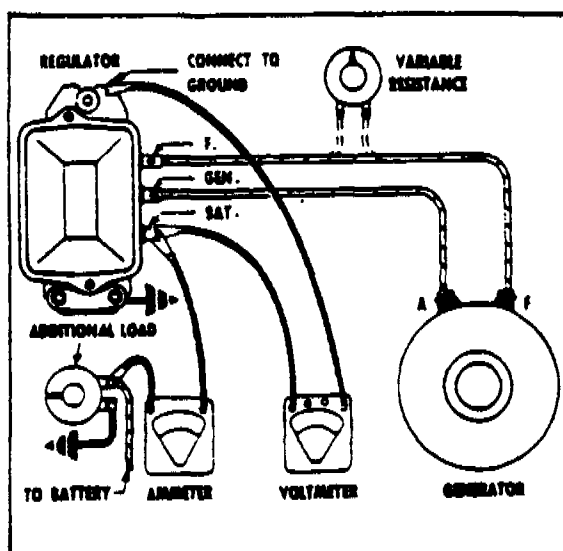

FIGURE 9-13. CHECKING CURRENT REGULATOR, LOAD METHOD
- a. Connect ammeter into charging circuit, as in Figure 9-13.